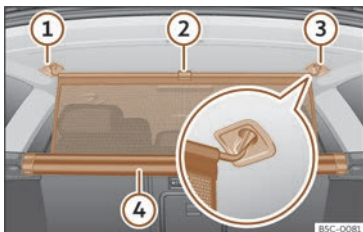

Fig. 181 In the boot: securing the partition net.
- Pull up handle >>> **Fig. 181** ② to remove the net from the casing ④.
- Hook in the net partition on the right or left side ③ (magnified image).
- Hook in the net partition into the housing on the other side ① by pulling the rod.